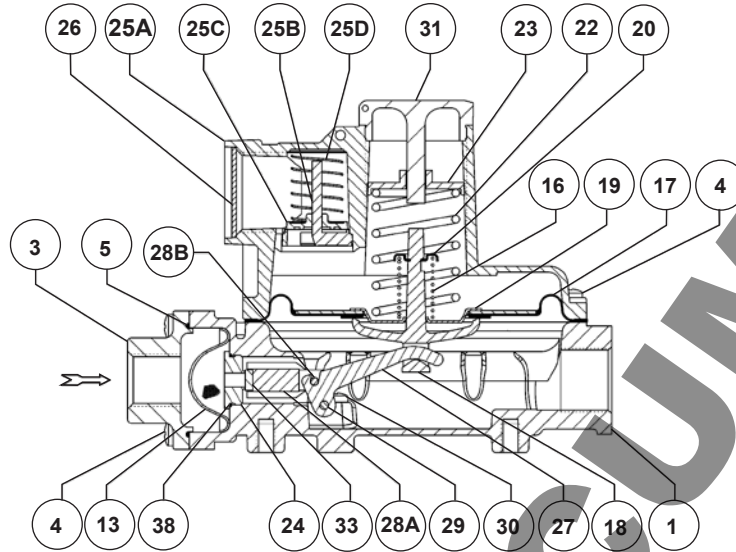

Figure 1. Type R622 Regulator
5. To adjust the regulator, monitor downstream pressure with a gauge during the adjustment procedure. To increase the outlet pressure, the adjustment screw (key 23, Figure 1) must be turned clockwise. This requires removal of the closing cap (key 31, Figure 1). To reduce the outlet pressure setting, turn the adjusting screw counterclockwise. Do not adjust the spring above the limit stamped on the regulator.